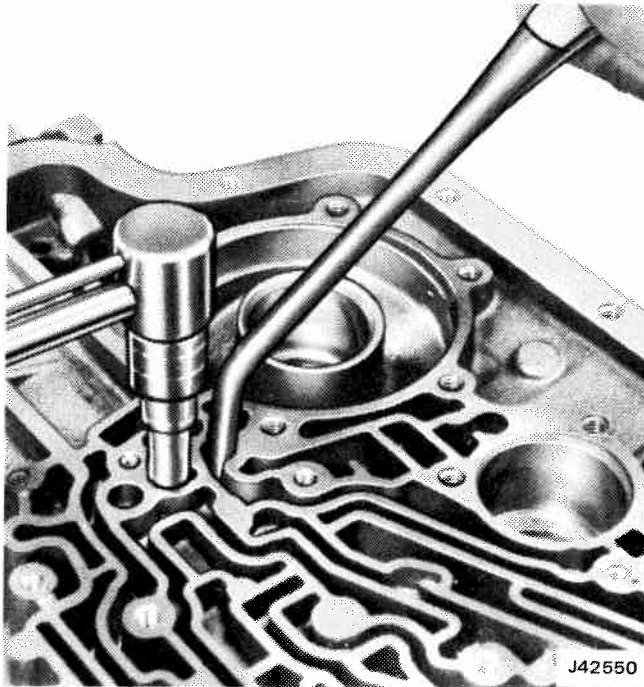

Fig. 7-120 Installing Center Support Screw
(8) Install proper rear unit selective washer (proper washer determined by previous end play check) into corresponding slots inside rear of transmission case.
(9) Install complete center support and gear unit assembly into case making certain center support bolt hole is properly aligned with hole in case. Use Tool Kit J-21795.
(10) Install center support-to-case retaining snap ring, **with bevel side up and locating gap adjacent to band anchor pin** to secure center support in case. **Make certain ring is properly seated in case.**
(11) Install case-to-center-support bolt by placing center support locating tool into case direct clutch passage, with handle of tool pointing to right as viewed from front of transmission and parallel to bell housing mounting face.
(12) Apply pressure downward on tool handle which will tend to rotate center support counter-clockwise as viewed from front of transmission.
(13) While holding center support firmly counter-clockwise against case splines, tighten case to center support bolt to 20 to 25 foot-pounds using a $\frac{3}{8}$ -inch, 12-point thin-wall deep socket. Refer to figure 7-120.